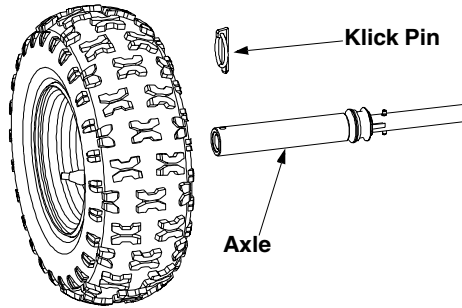

Figure 23
- Oil or spray lubricant into bearings at wheels at least once a season. Pull klick pin, remove wheels, clean and coat axles with a multipurpose automotive grease. See Figure 23.